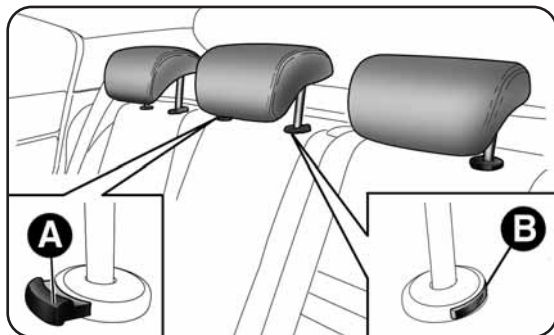

fig. 74
- raise the head restraints to the maximum height, press both buttons A and B -fig. 74 to the side of the two supports, then remove the head restraints by sliding them upwards;